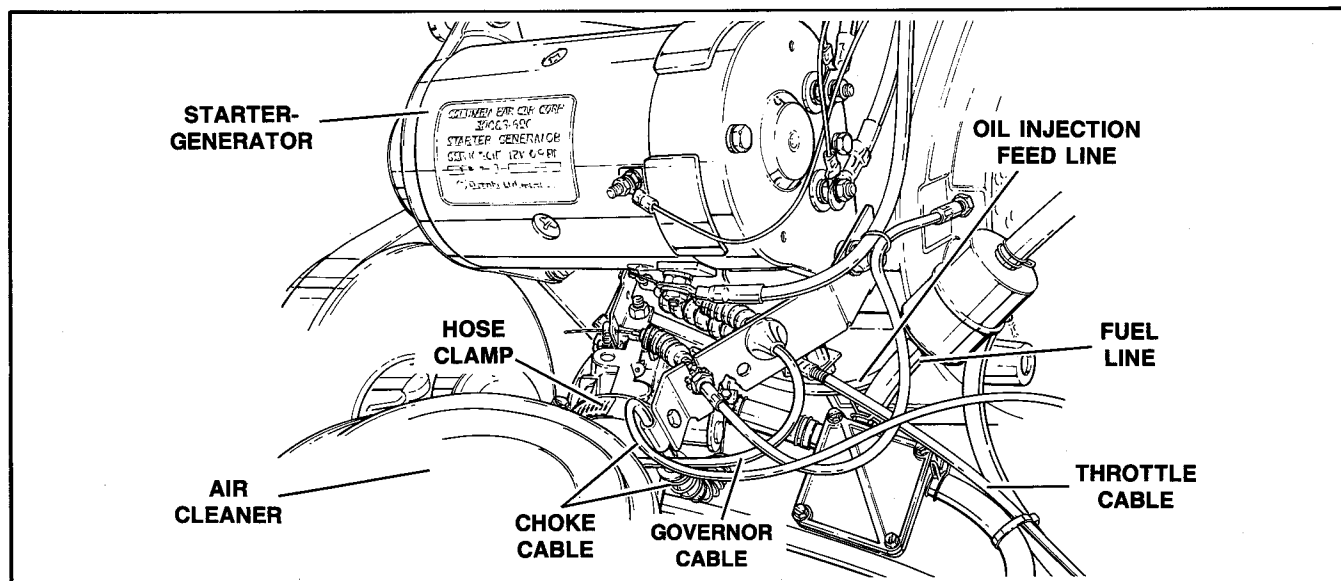

Figure 7-1 – Engine Removal
- d. See Figure 7-1. Disconnect fuel line at the fuel
- e. See Figure 7-1. Install air cleaner hose to carburetor and tighten clamp. Secure the fuel line to the fuel pump. Install oil injection feed line to oil pump. (Purge oil line of air.)
- f. See Figure 7-1. Connect throttle and choke to carburetor and governor cable to governor arm. Install carburetor lever and oil pump cable after starter is on and before tightened.
- g. See Figure 7-1. Install the starter-generator and cable guide. Connect coil and check cable operation and oil pump setting and governor setting.